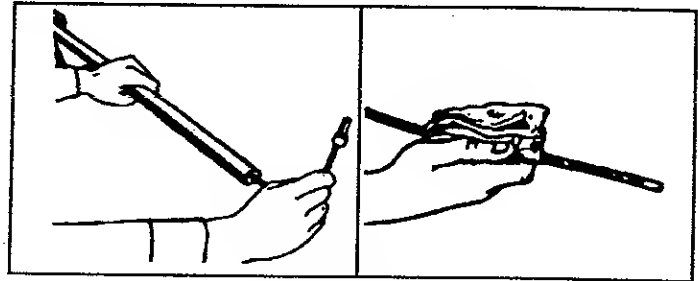

Figure 28
2. Remove the Drive Shaft from the drive Shaft Housing. Figure 28 .